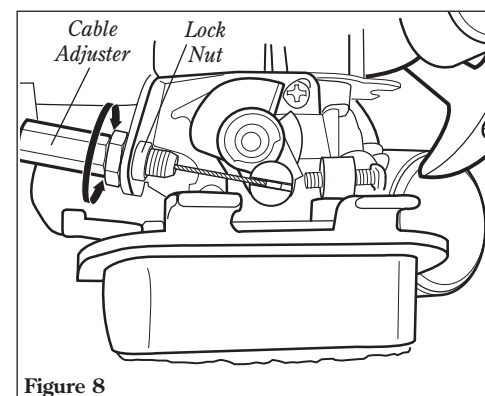

Figure 8
2. Loosen the lock nut on the cable adjuster. See Figure 8.
3. Turn the cable adjuster in or out as required to obtain proper free play 3/16-1/4 inch (4-6 mm). See Figure 8.